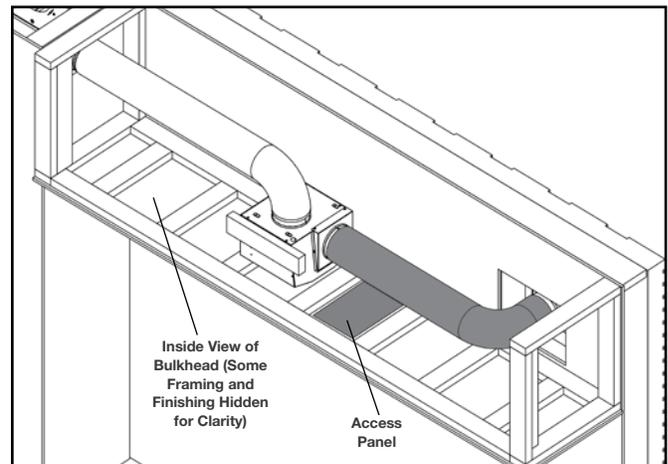

Fig. 4
4. Apply silicone to the joint after installation, and caulk or seal the flashing appropriately for the finish material **(Fig. 4)**.
4. Install 6" steel or aluminum duct (not supplied) from the blower housing assembly outlet to the hot air exhaust assembly (Fig. 4).
5. If applicable, remove the 4 screws securing the decorative cover on the blower housing assembly and set them aside (**Fig. 4, next page**). Remove the decorative cover and set it aside.
16. Install/reinstall the decorative cover onto the blower housing assembly using 4 screws (supplied) (**Fig. 4**).